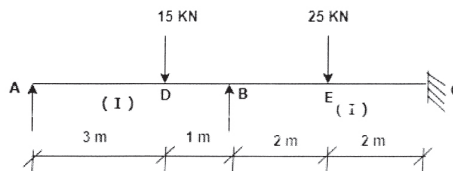

Figure 2
b) Analyze the beam shown in figure 2 by Slope Deflection Method. [5]